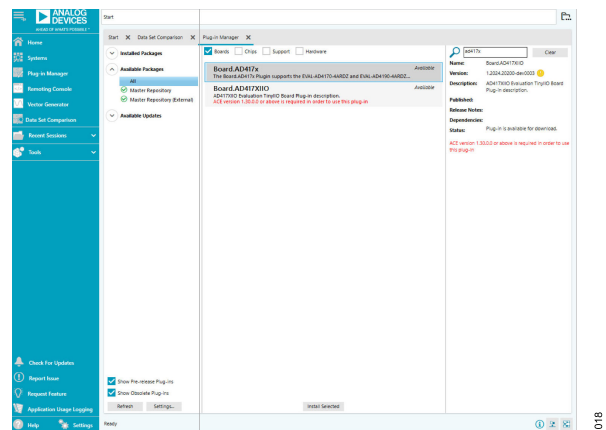

Figure 18. ACE Software Main Window
1. From the **Start** menu of the PC, select **All Programs > Analog Devices > ACE > ACE.exe** to open the **ACE** software main window, as shown in Figure 18.